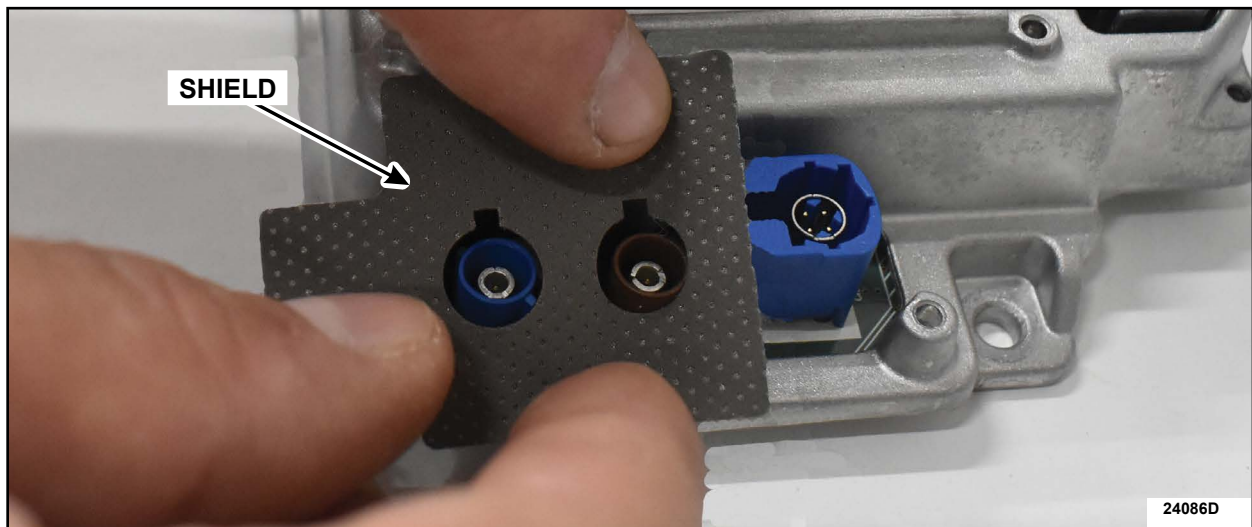

FIGURE 4
5. Remove the paper liner to expose the adhesive on the shield. Place the shield, adhesive side down, over the two connectors. See Figure 4.